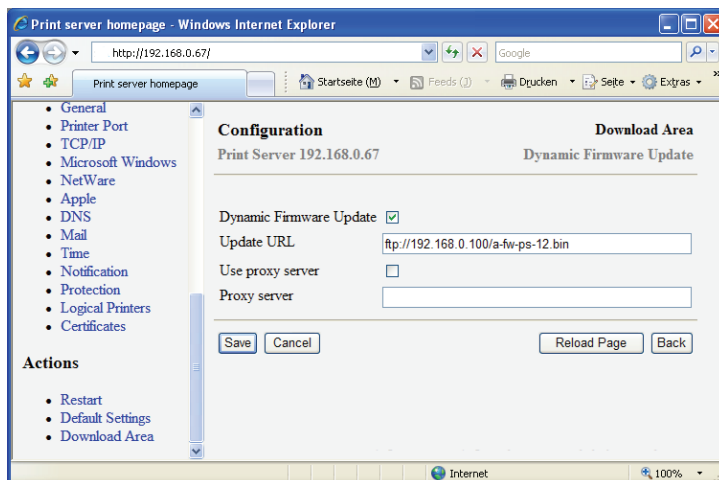

Fig. 24: PRINTSERVER Homepage - Dynamic Update
3. *Select **Actions – Firmware Update** from the menu bar. The **Dynamic Update** dialog appears; see Fig. 24 ⇨  161.*